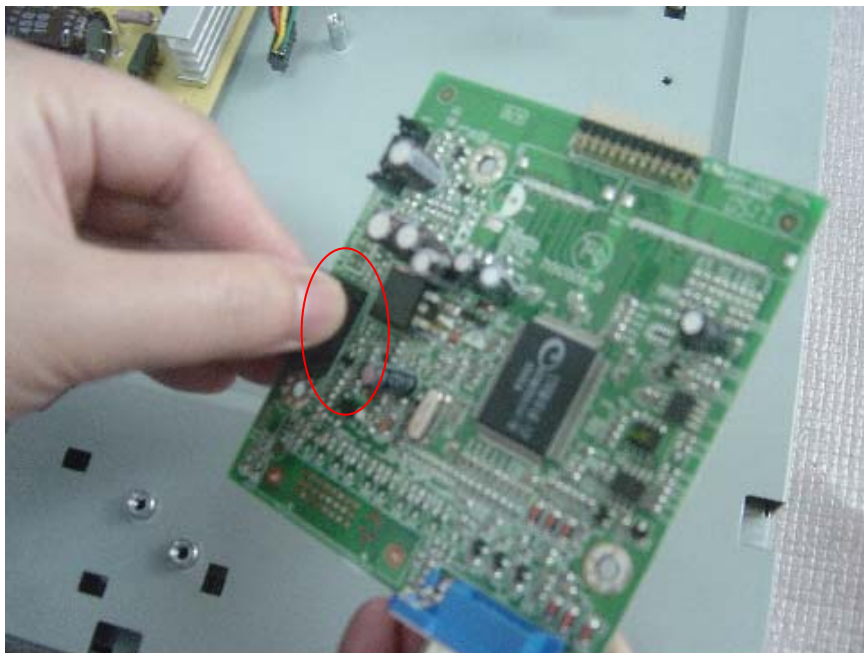

Fig 9
4. Remove connector wire with main board and KEPC board. (Fig 9)